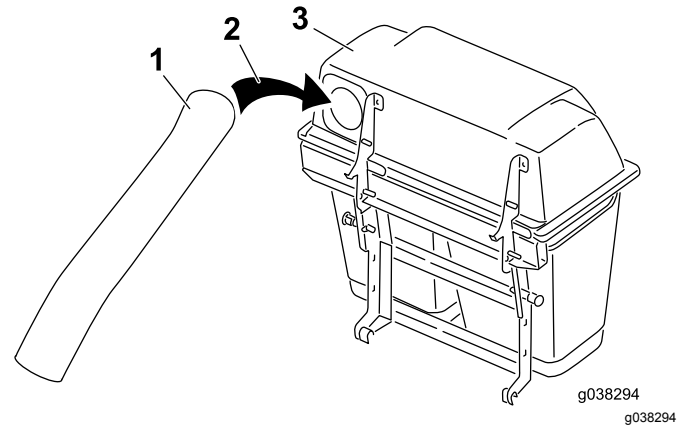

Figure 50
- Install the upper tube into the bagger opening and pull it back out so that the hopper seal is protruding out (Figure 50).